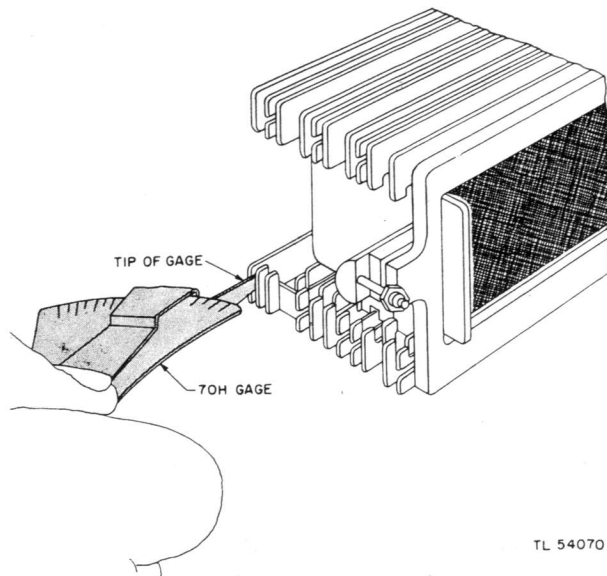
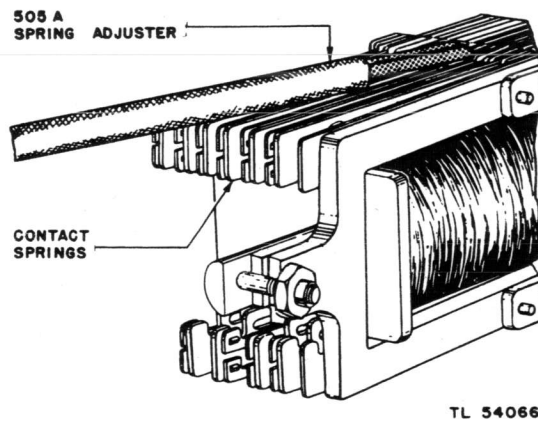

Figure 66. Checking spring tension of U-type relay.
Figure 67. Adjusting spring tension of U-type relay.
o. Spring Tension. The tension of each spring is measured in grams. On terminals 2 and 3 (fig. 56), the tension is 25 grams. Figure 66 shows how the spring tension is measured. The minimum values of spring tensions are given. If the tension greatly exceeds the specified minimum, the relay may fail to meet its electrical requirement, and the tension will have to be reduced. In readjusting, try to get as much tension in the moving springs as is consistent with meeting other requirements. Distribute the tensions of the moving springs proportionately between the top and bottom spring combinations. Use the 505A, 506A, or 507A spring adjuster, as specified. Use the 505A spring adjuster on the thin springs, because the use of any adjuster that has a wider slot may result in unsatisfactory adjustment. Place the spring adjuster on the spring just behind the operating stud and slide it back to the base of the spring (fig. 67). Adjust the spring to the right or left; be careful not to disturb adjacent springs. Adjust the springs in line with their movement. Avoid tilting them, because tilted springs will cause unequal contact separation of the two pairs of contacts and may result in the failure of one of the contacts on the bifurcated spring to close. If the desired tension cannot be obtained in the above manner without bowing the spring or reducing the clearance between springs below the minimum value, apply the spring adjuster to the spring behind the operating stud and slide it back to the base of the spring. Then draw the adjuster forward to the length of the spring; meanwhile apply enough pressure to form the spring into a slight gradual bow, with the concave surface facing the armature. Repeat the adjustment shown in figure 67.